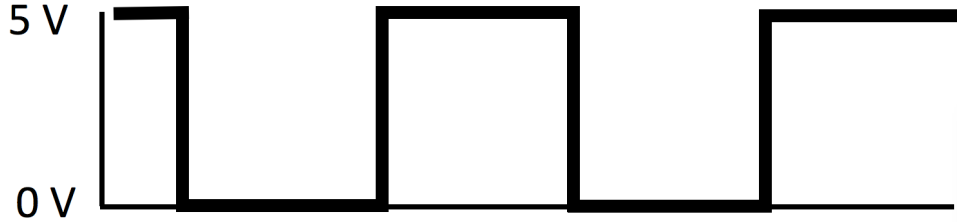

Figure 2: Oscilloscope Square Wave
7. The mathematical definition of the RMS voltage is $V_{RMS} = \sqrt{\frac{1}{T} \int_0^T V^2(t) dt}$. Calculate V_{RMS} of the Probe Comp waveform (Fig. 2). Is it different from both of the previous two measurements?